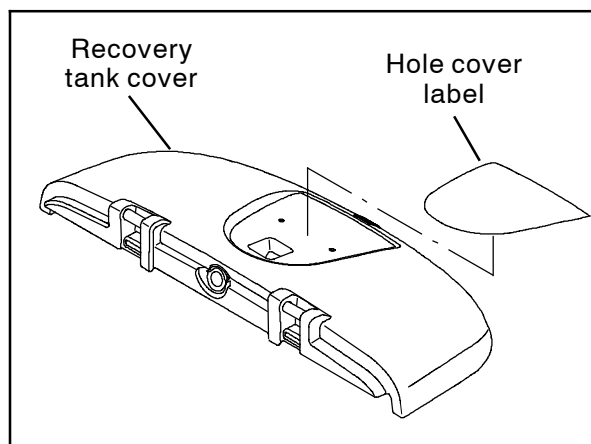

FIG. 1
1. Remove the hole cover label from the recovery tank cover. (Fig. 1)